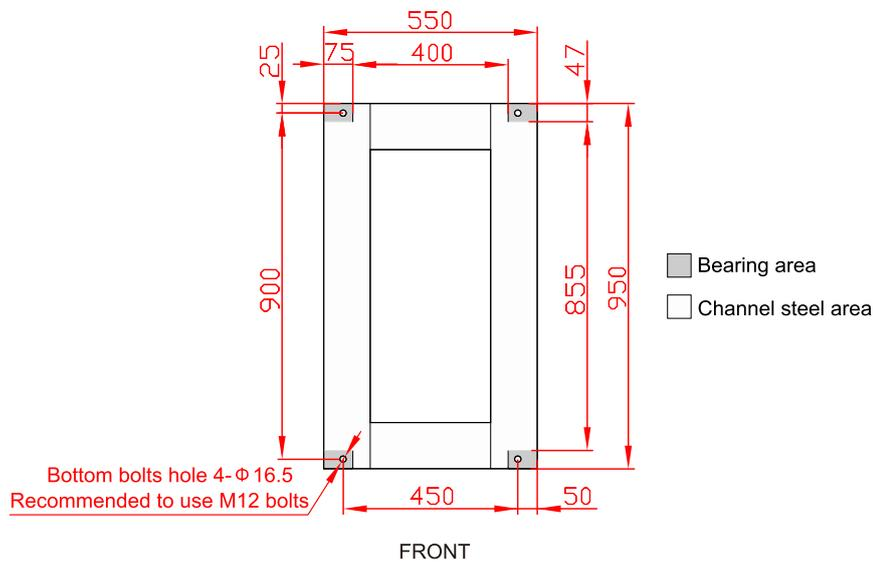

Figure3-18 Recommended installation size for channel steel (unit: mm)
- If channel steel is used for installation, drill four installation holes  $\phi 14$ mm on the channel steel directly according to the drilling size shown in Figure3-18, and then install it directly according to **Step 4**.